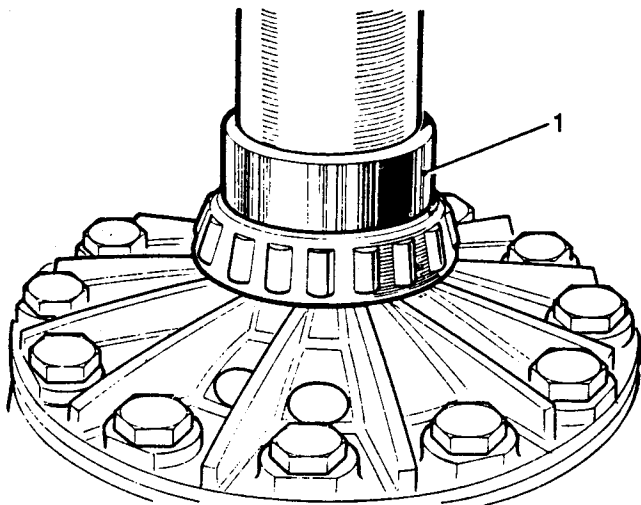

Fig J2.29
- (1) Refer to Fig J2.29. Press on the differential bearing cones less shim washer, using special tool 18G134DP (1).
- (2) Fit the bearing cups to the differential.
- (3) Fit the differential unit and bearing to the gear carrier casing. Do not fit the bearing caps.